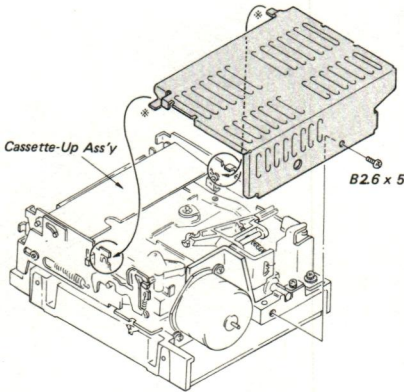

Fig. 4-5 Main Cover Replacement
- Remove the screw (B2.6 x 5) which fastens the main cover from the chassis ass'y, and then remove the main cover. (Refer to Fig. 4-5)
- Install the main cover so that the position marked is set in accordance with the arrow, and then install the main cover with the screw (B2.6 x 5). (Refer to Fig. 4-5)